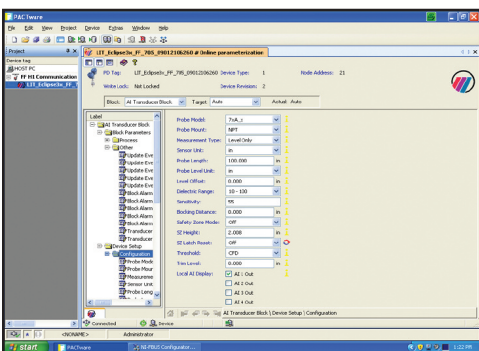

Figure 6
- a. The word Connected will be shown on the lower left hand corner of the window (See Figure 6).